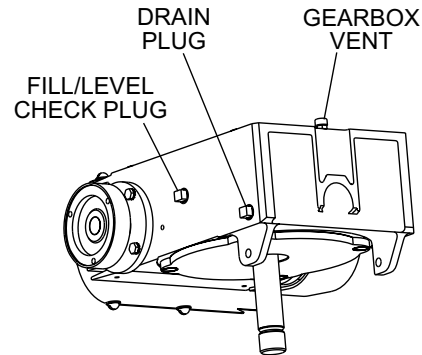

Figure 7. Gearbox Oil Plugs/Sight Glass
1. Check the gearbox oil level in both gearboxes by removing the level plug and ensuring that the oil is at the correct level. See Figure 7
2. Fill the gear box just to the level of the fill plug (Figure 7) with 69 oz. (2.041 L) of Multiquip gearbox lubricant, P/N 20111, ISO or equivalent.